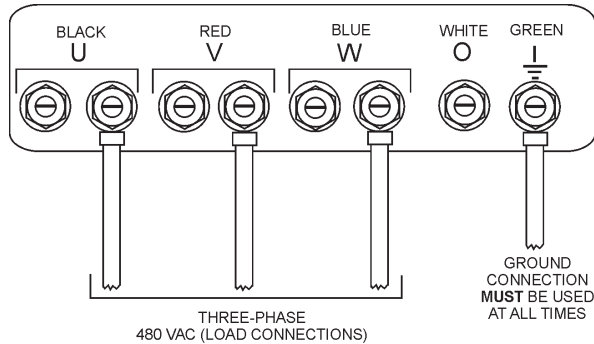

Figure 23. UVWO Terminal Lugs 3Ø-480V Connections
2. Connect the load wires to the UVWO terminals as shown in Figure 23.